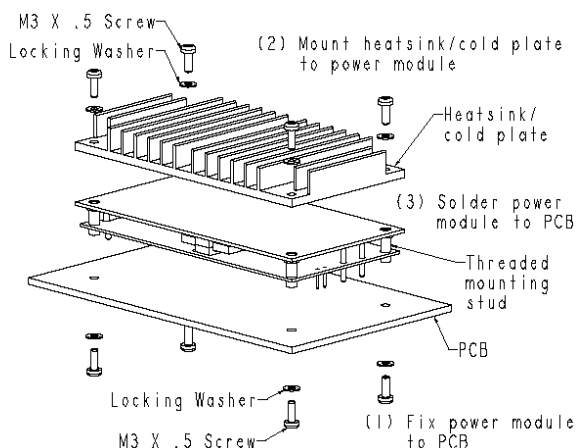

Figure 2 - Assembly Sequence for Threaded Studs
- Threaded stud version (Figure 2):